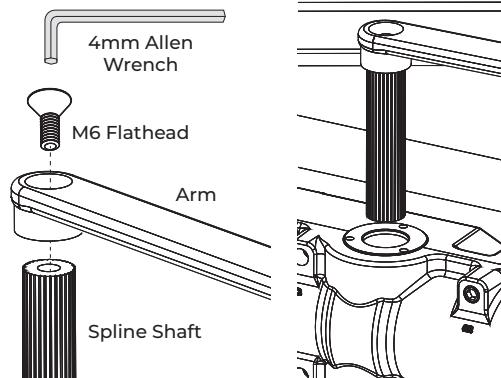

Figure 11
4. Using the provided 4mm allen wrench, secure arm to spline shaft with the M6 flathead screw. (Figure 11)